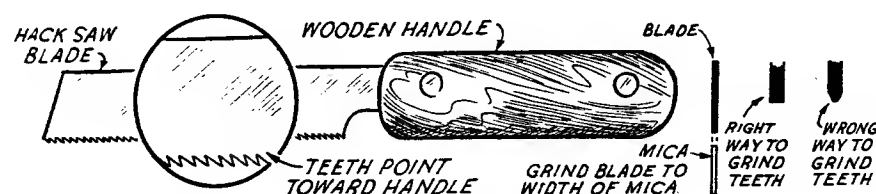
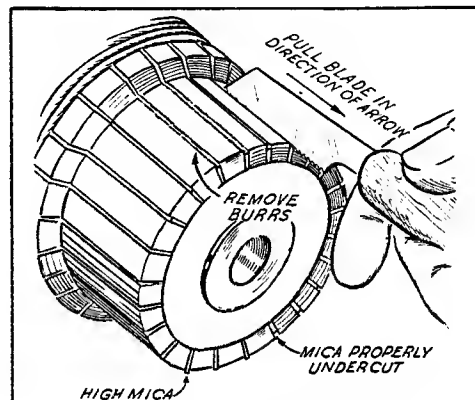

Fig. 27 Mica Undercutting Tool
Fig. 28 Undercutting Mica
**COMMUTATOR AND COLLECTOR RINGS.** - The mica insulation between the commutator bars, or segments, was originally undercut to a depth of 1/32 inch below the commutator surface. After a long period of service, the surface of the commutator may become worn down level with the mica. This condition would cause noisy brushes, sparking of the brushes, and pitting of the commutator. The mica should again be undercut to 1/32 inch depth. Remove the brush springs and pull all the brushes out of their guides. After tagging any leads disconnected (to assure correct reconnection) remove the end bell. With a mica undercutting tool, or an improvised tool fashioned from a hack saw blade (Fig. 27), carefully cut the mica between all of the commutator bars down to the 1/32 inch depth. Use care to avoid scratching the surface. Remove any burrs which may be formed along the edges of the bars, and clean all spaces between bars completely free of any metallic particles, Fig. 28.